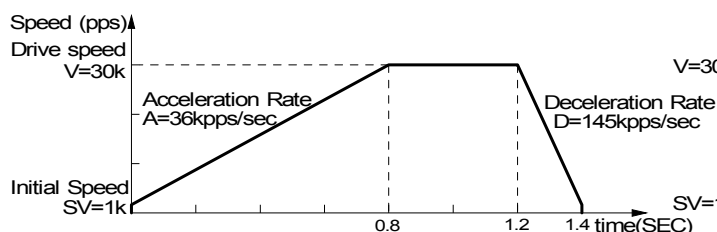
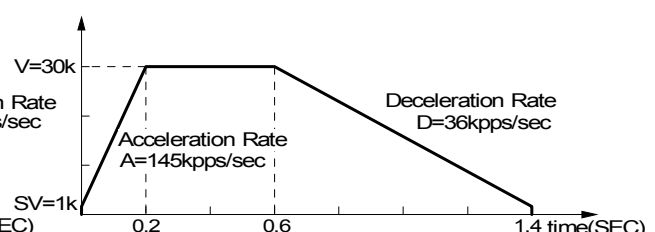

Fig.2.11 Non -Symmetrical Linear Acceleration Driving
Fig.2.12 Non - Symmetrical Linear Acceleration Driving
This IC can perform automatic deceleration in fixed pulse driving in non-symmetrical linear acceleration where the acceleration and the deceleration are different. It is not necessary to set a manual deceleration point by calculation in advance. Fig. 2.11 shows the case where the deceleration is greater than the acceleration and Fig. 2.12 shows the case where the acceleration is greater than the deceleration. In such non-symmetrical linear acceleration also, the deceleration start point is calculated within the IC based on the number of output pulses P and each rate parameter.
- In the case of acceleration > deceleration (Fig. 2.12), the following condition is applied to the ratio of the acceleration and the deceleration.
- If acceleration > deceleration (Fig. 2.12), the greater the ratio of acceleration A to deceleration D becomes, the greater the number of creep pulses becomes (about maximum of 10 pulse when A/D=10 times). When creep pulses cause a problem, solve the problem by ①increasing the initial speed or ②setting a minus value to the acceleration counter offset.